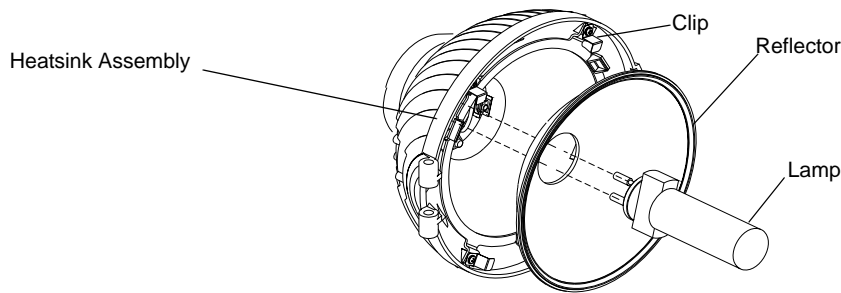

Figure 2-4: VL5Arc Lamp Replacement
Step 2. Unlatch and swing open heatsink assembly. **Figure 2-4.**